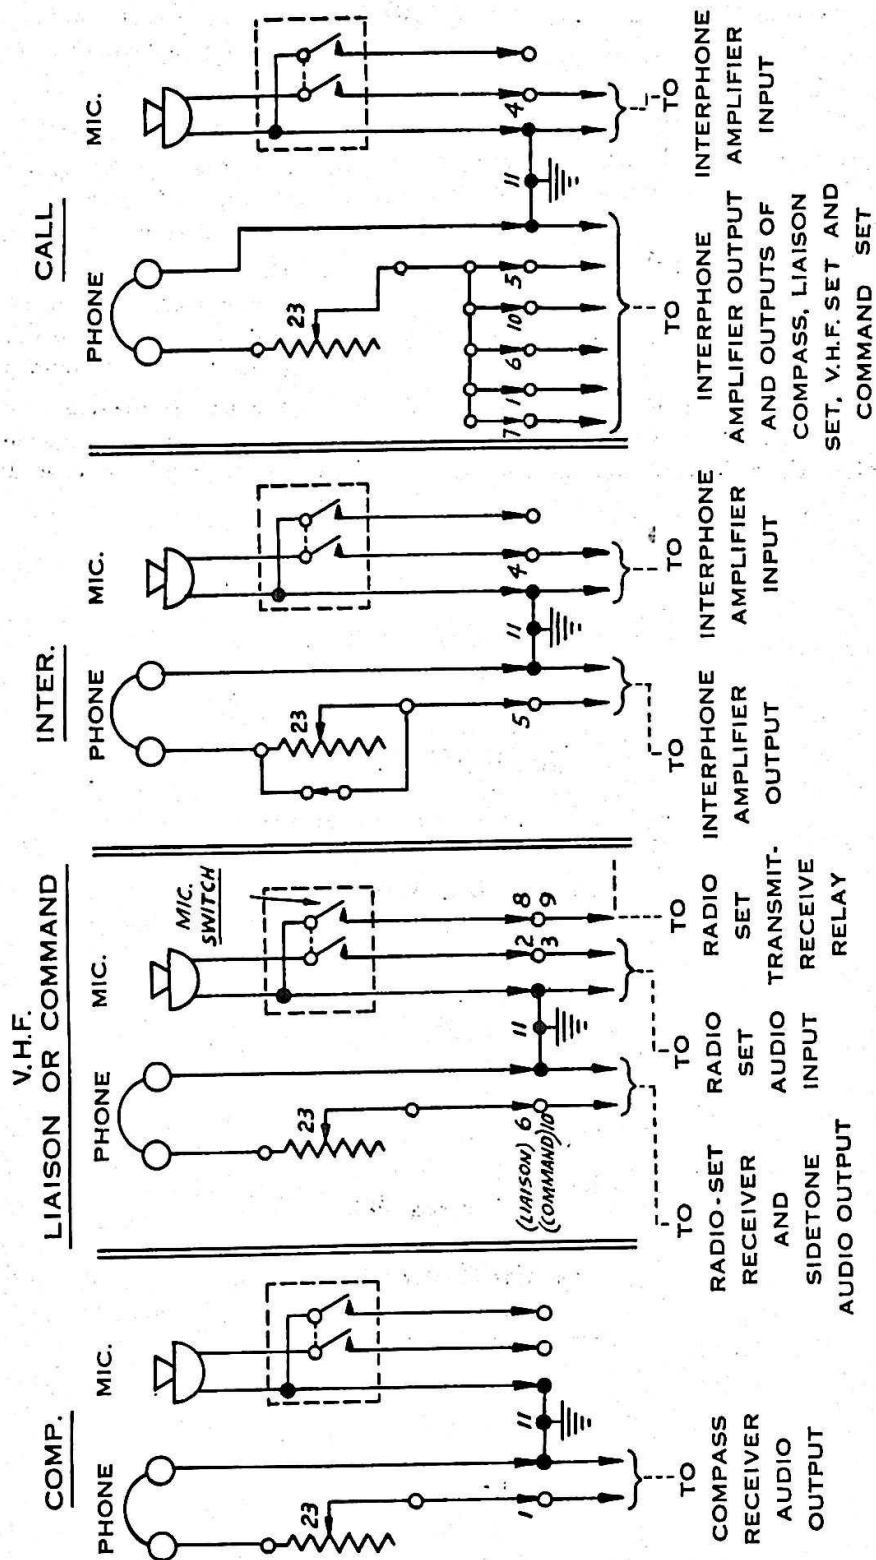

Figure 5-4. Jack Box BC-1366—Functional Diagrams for All Switch Positions.
3. A functional diagram of the headset and microphone circuits for the switch positions of Jack Box BC-1366 is shown in figure 5-4.